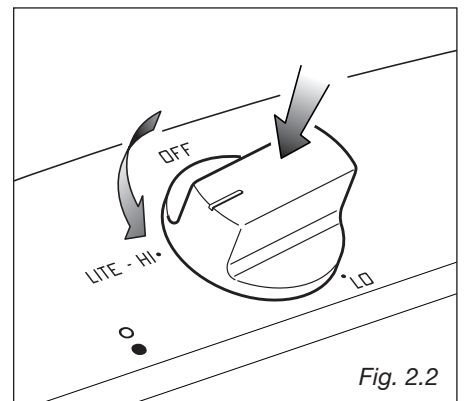

Fig. 2.2
- 1 – Turn the knob in an anti-clockwise direction up to the **LITE-HI** position (maximum rate), push in, hold the knob until the flame has been lit (fig. 2.2).